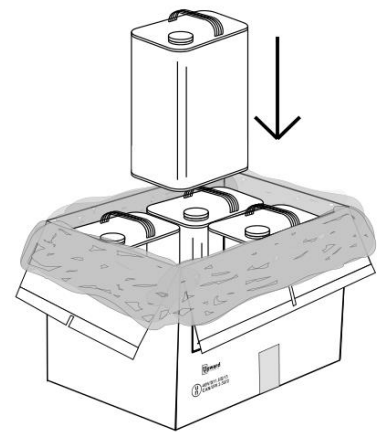

Figure 4
6. Place cans into the carton. (See Figure 4)